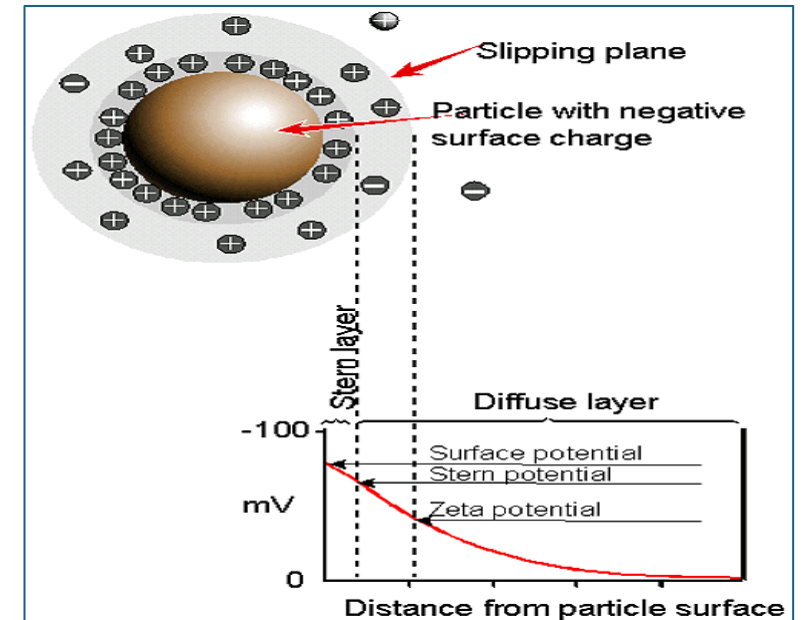

Figure 7: Schematic representation of zeta potential
- c) When a **particle moves (e.g. due to gravity)**, ions within the **boundary move it**. Those ions beyond the boundary stay with the bulk dispersant. **The potential at this boundary (surface of hydrodynamic shear)** is the **zeta potential** (figure 7).